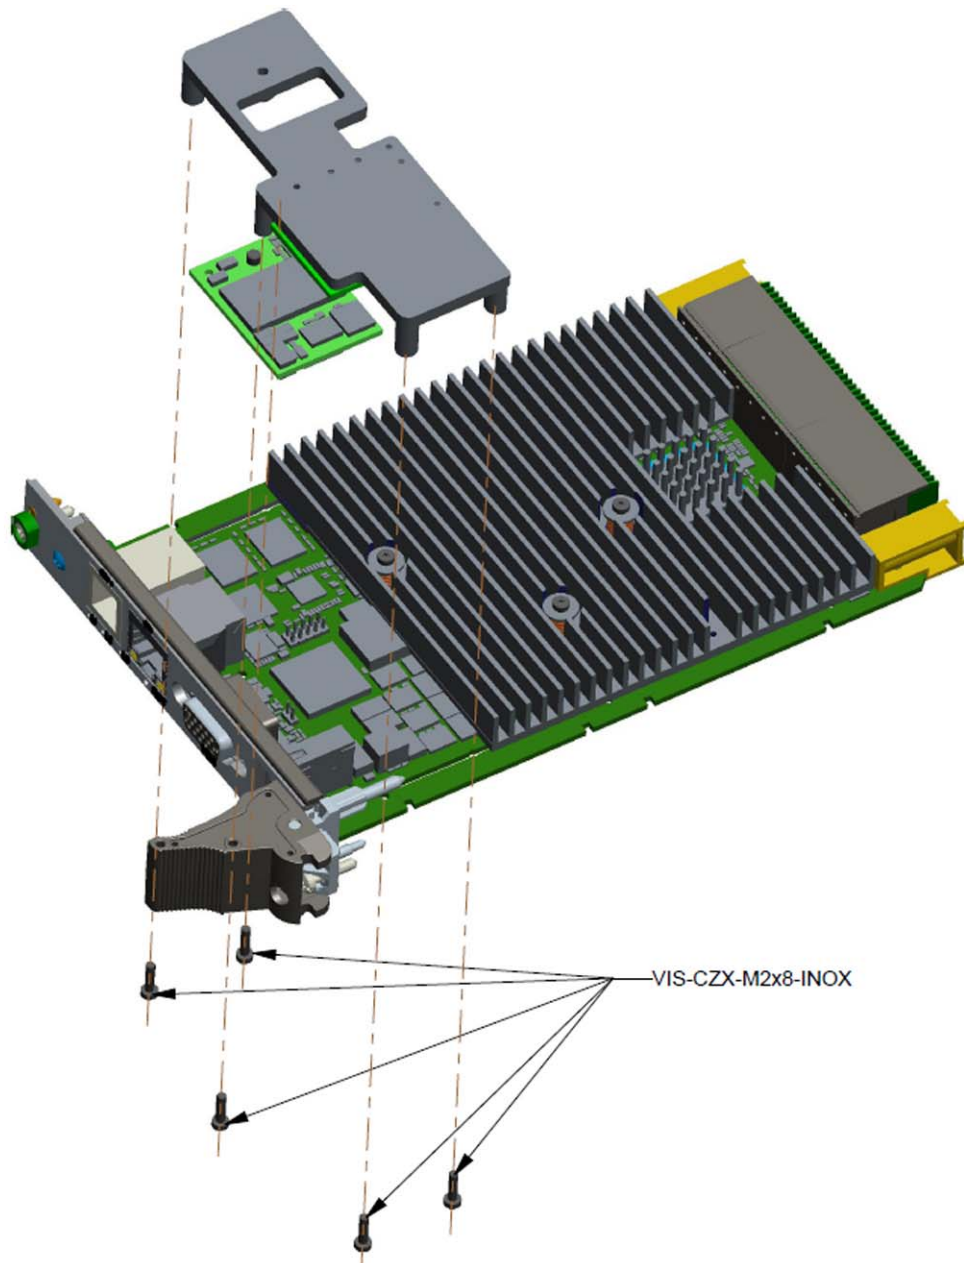

Figure 14: Mounting the holder SUP-MEZFLABAT-1-V02 with NAND device and/or battery mezzanine onto the VX3035 board
Then mount the holder and the NAND device onto the board with five M2 8mm stainless steel screws (Kontron P/N VIS-CZX-M2X8-INOX) as shown in Figure 14.
- Unmount the holder (unscrew the five M2, 8mm, stainless steel screws) as shown in Figure 14 page 27.
- Mount back the holder onto the VX3035 board as shown in Figure 14 page 27.